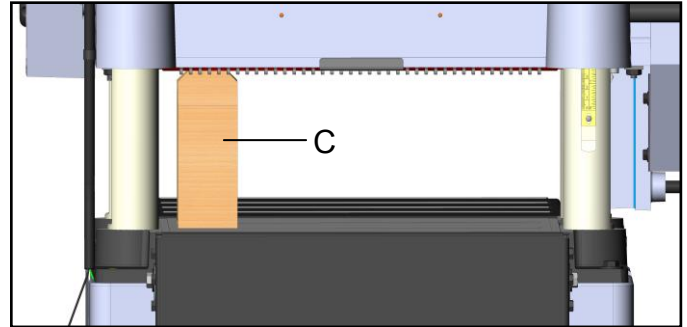

Fig. 26
2. Place gauge block (C) on table directly under cutterhead, Fig. 26. Lower cutterhead until knife tip just touches gauge block.